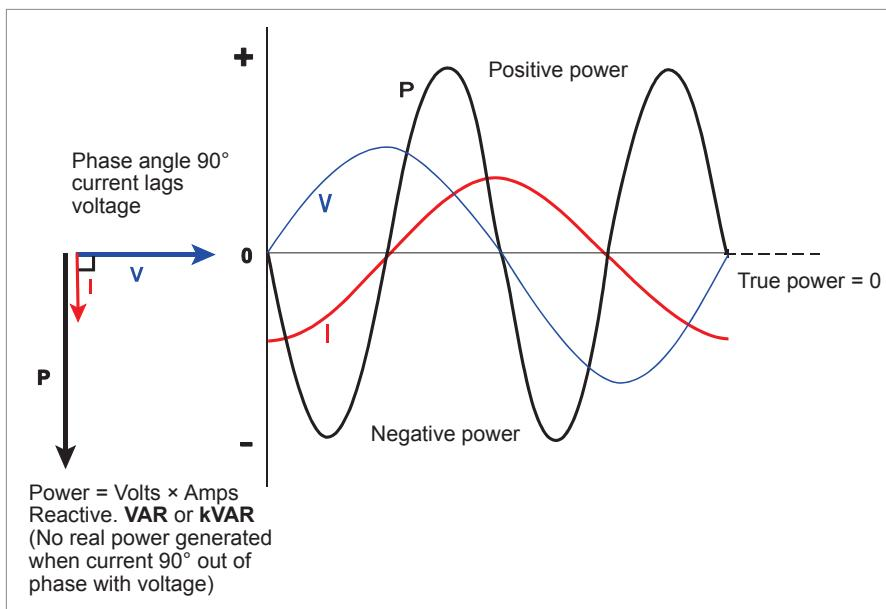

Figure 11.16 Power in a purely inductive circuit
*Figure 11.16* shows a purely inductive circuit where the current 'lags' the voltage by  $90^\circ$ . It can be seen that by plotting instantaneous values of current  $\times$  voltage we can obtain the waveform of instantaneous power.